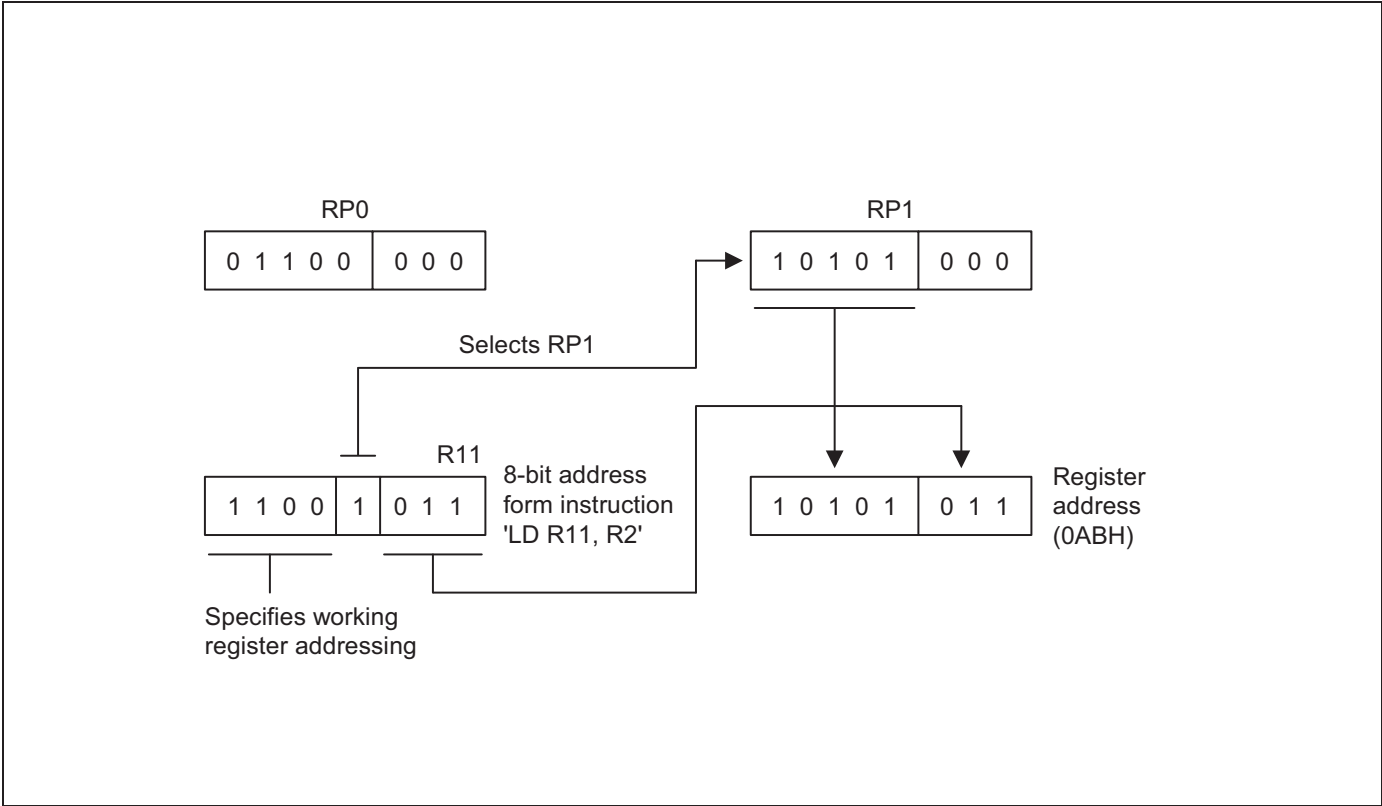

Figure 2-15. 8-Bit Working Register Addressing Example
Figure 2-15 shows an example of 8-bit working register addressing. The four high-order bits of the instruction address (1100B) specify 8-bit working register addressing. Bit 4 ("1") selects RP1 and the five high-order bits in RP1 (10101B) become the five high-order bits of the register address. The three low-order bits of the register address (011) are provided by the three low-order bits of the 8-bit instruction address. The five address bits from RP1 and the three address bits from the instruction are concatenated to form the complete register address, 0ABH (10101011B).